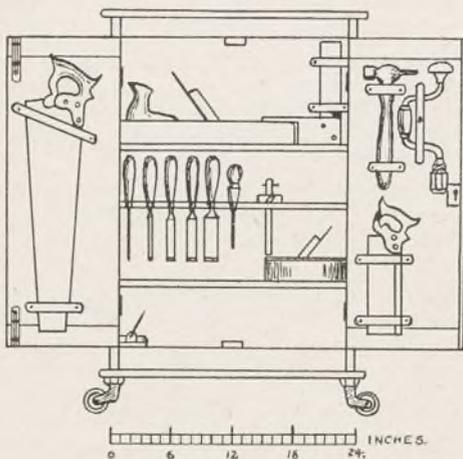

Fig. 1—Suggested layout of tools, with dimension scale
Fig. 1 shows a suggested layout for the tools on one side, but as every kit of tools varies considerably, this must again be left to personal ideas. A good suggestion would be to have woodworking tools on one side, and metalworking tools on the other.
One important matter we have left till the finish. That is, the standards (A) must be opened out at the top ends as shown by the curved dotted lines in Figs. 1 and 2, to allow the large wheel to be lifted out for the removal of the silk. By making the openings as shown they do not interfere with the running of the machine, and it is best to leave the making of the slots till the other parts are finished.